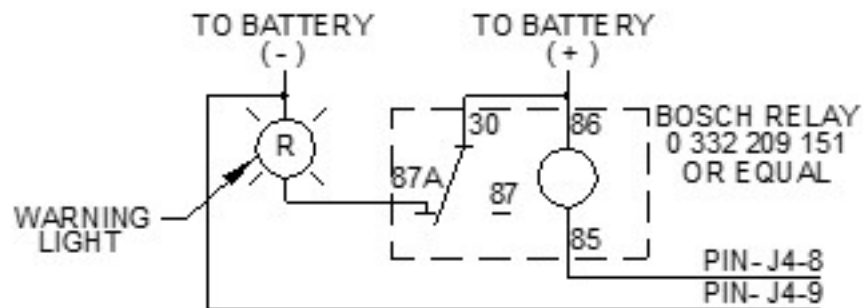

Figure 5-26 Example Vehicle Safety Interconnect Circuit
This relay output is from a bi-stable (latching) relay whose contacts either open or close (switch selectable) when the mast is active (not stowed). Its state is not affected by whether or not there is power to the mast. This contact is capable of carrying up to two (2) amperes and is available on pins J4-8 and 9 (data cable supplied by the installer). Figure 5-26 shows an example vehicle safety interconnect circuit. It can be used in conjunction with a customer-supplied relay to drive a flashing warning light. Other arrangements are possible.